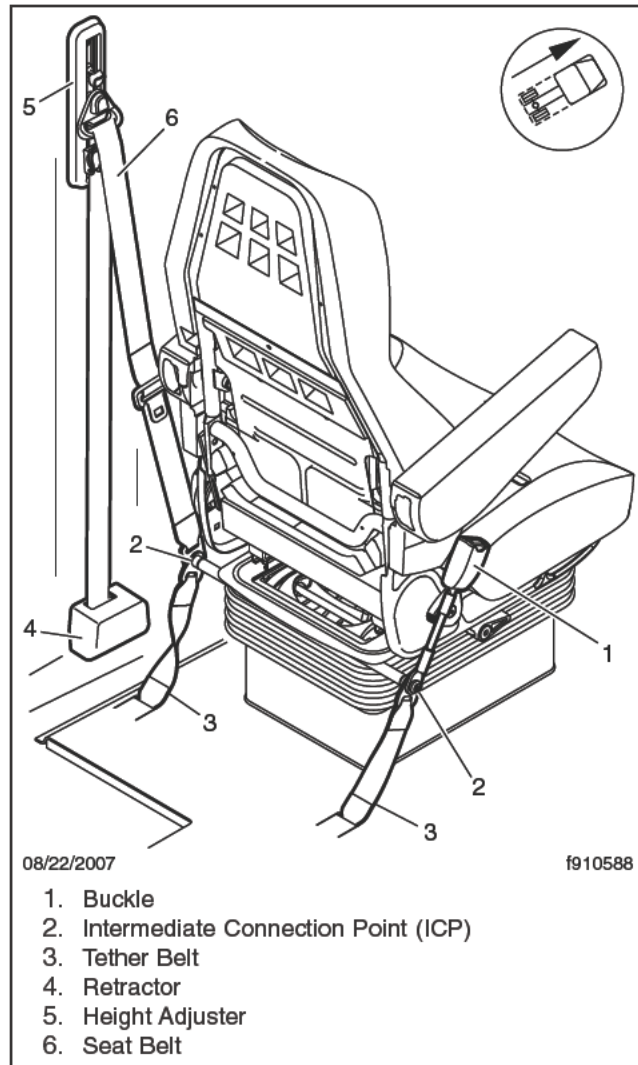

Fig. 2, Seat Belt Installation, Air Suspension Seats
8. Remove the Torx® screws that attach the seat belt and tether belts to the intermediate-connection-point (ICP) bar. See Fig. 2.